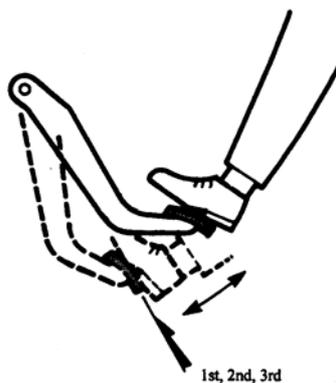

FIG.16-79
- (4) If pedal travel doesn't change, air tightness isn't obtained. (FIG.16-79)